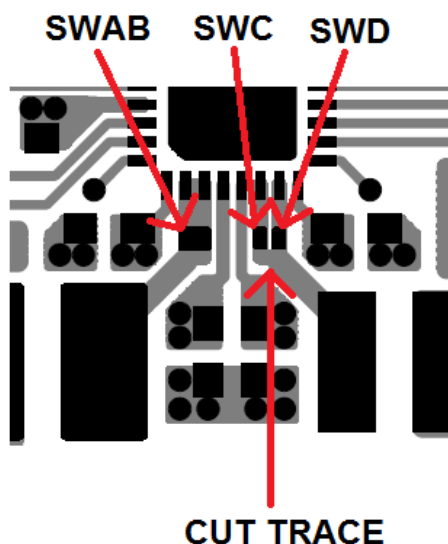
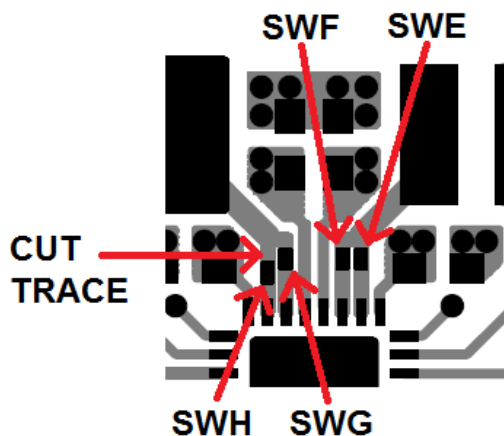

Figure 5. Cut SWC and SWD connection near pins
Figure 6. Cut SWH trace between L4 and SWH pin
4. Any switch node associated with a  $V_{IN}$  trace that was cut will also need to be cut. The SWC/SWD traces and SWD/SWF traces can be cut in between to pads near the SW pins as shown in Figure 5. The SWG/SWH traces only need to be cut for the “4112” configuration. SWH needs to be cut between the SWH pin and L4 as shown in Figure 6.
6. All switch nodes of adjoining power stages will need to be connected together. Each power stage has a pad to solder a small bus wire, 28AWG. The switch node pads are also shown in Figure 5 and Figure 6. Carefully solder a bus wire as short as possible between adjoining power stages.